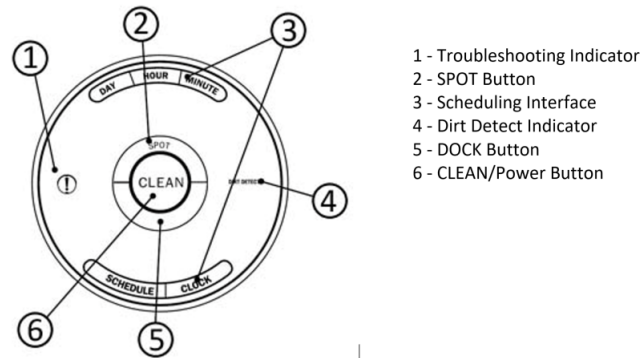

Figure 6: *iRobot Create* controls.
Robot controls are shown in figure 6. There are some different buttons and LEDs, but during normal use, you will be using only CLEAN button (6), DOCK button (5) and Troubleshooting indicator (1). Every robot has a non dedicated Home base, where robot gets charged and standby.